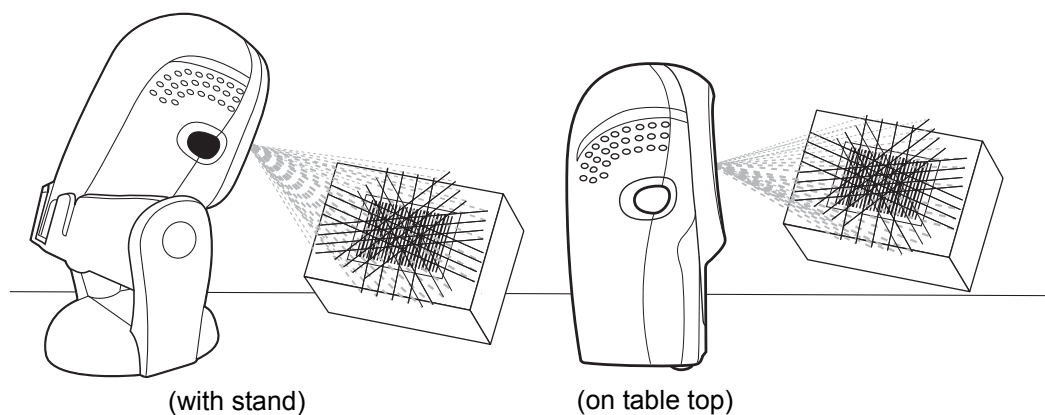
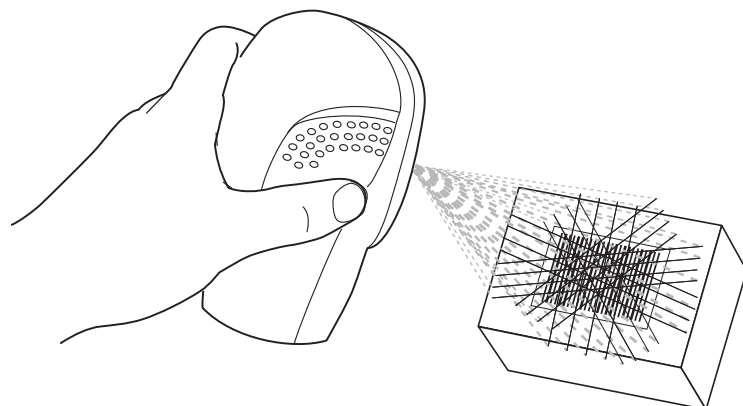

Figure 2-5 *Presentation Mode*
Figure 2-6 *Hand-Held Mode*
3. To scan a bar code, present the bar code and ensure the scan lines cross every bar and space of the symbol. The scan pattern becomes steady when the scanner detects the bar code. See Figure 2-5 on page 2-4 for scanning in presentation mode and Figure 2-6 on page 2-4 for scanning in hand-held mode.